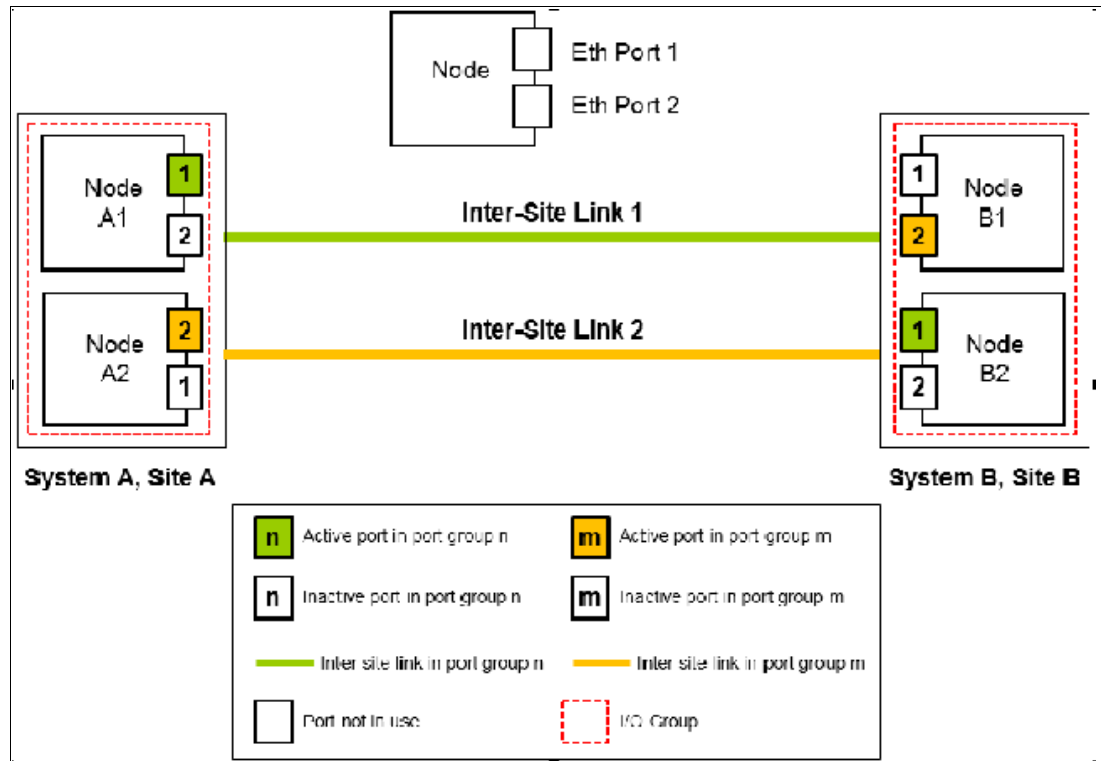

Figure 10-106 Dual Links with two Remote Copy Port Groups with failover Port Groups configured
- An example of an *unsupported* configuration for a dual inter-site link is shown in Figure 10-106 (configuration 9).
As shown in Figure 10-106, this configuration is similar to Configuration 5, but differs because each node now also has two ports that are configured with RC port groups. In this configuration, the path selection algorithm can select a path that might cause partnerships to change to the Not_Present state and then recover, which results in a configuration restriction. The use of this configuration is not recommended until the configuration restriction is lifted in future releases.